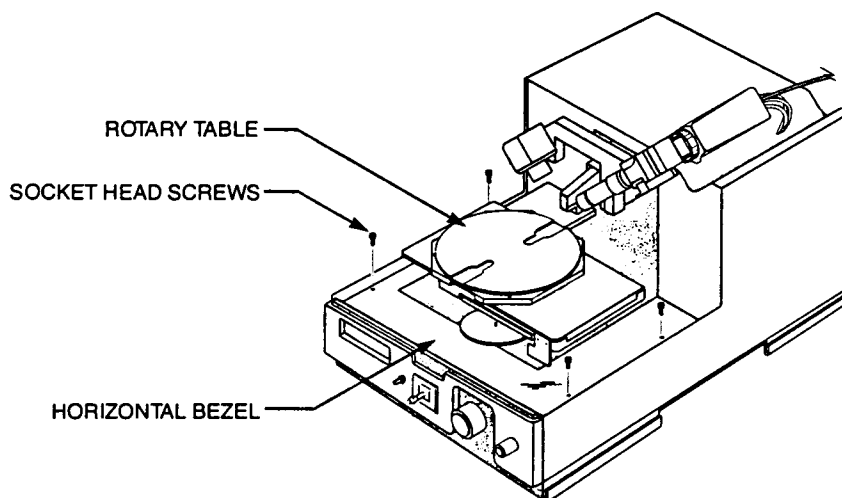

Figure C-1. Horizontal Bezel and Rotary Table
5. Using the 3/32" driver supplied in the vacuum chuck tool kit, remove the four socket head screws securing the horizontal bezel (see Figure C-1). Carefully remove the bezel by slightly lifting up the front of the stage.